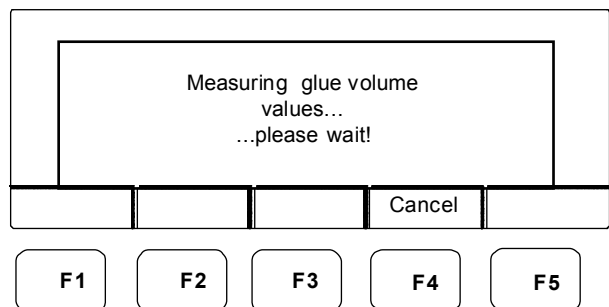

Figure 13-8.
3. Press F2 (Yes). The measuring cycle starts and the “measuring glue volume values...please wait” message displays (Figure 13-8).